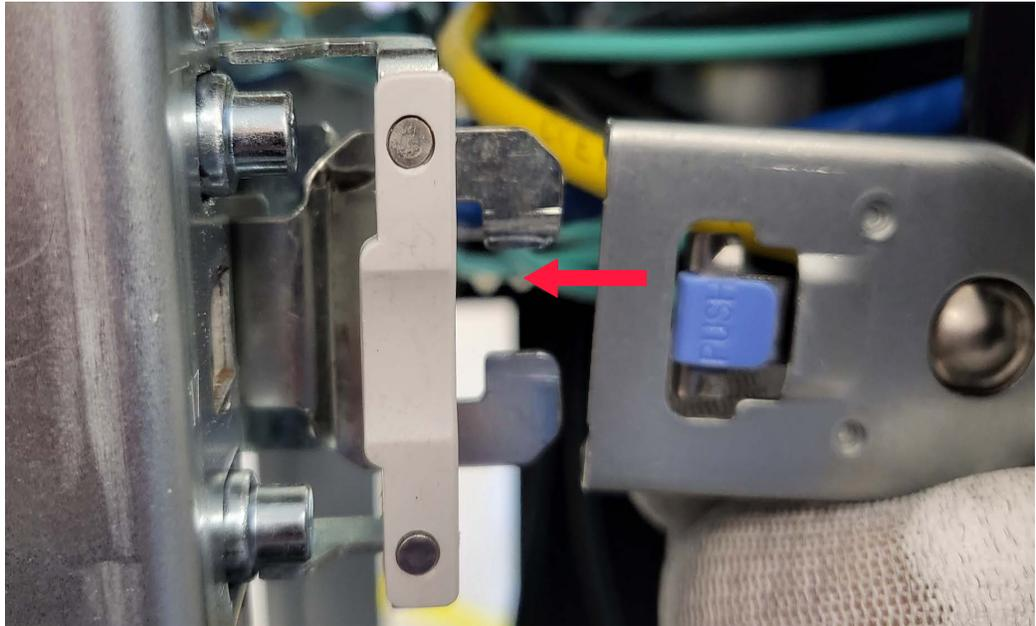

Figure 8.31 Aligning CMA body connector and body rail connector
2. Align the CMA body connector with the CMA body rail connector, as shown in Figure 8.31 on page 119.